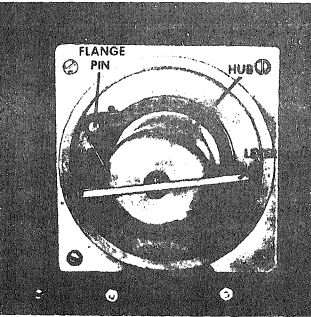

Figure 5. Hub Assembly
4. lever of hub assembly (Fig. 5) in vertical